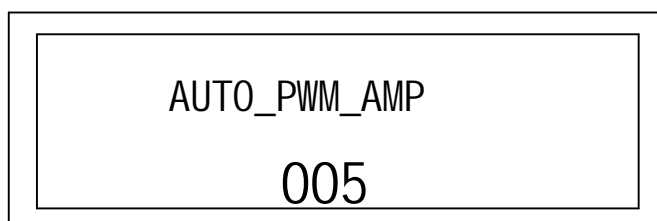

Fig.13: AUTO_PWM_AMP setup interface
8) . AUTO_PWM_AMP: This parameter is used for setting up the PWM speed adjusted coefficient when the arc voltage is changing. The parameter is bigger, more sensitive for the height controller. But the running stability of the cutting torch will get lower. On opposite, the parameter is smaller, sensitive will be lower and the running stability will be higher. So a appropriate coefficient selected can get a good balance between the sensitive and stability. Fig.13.